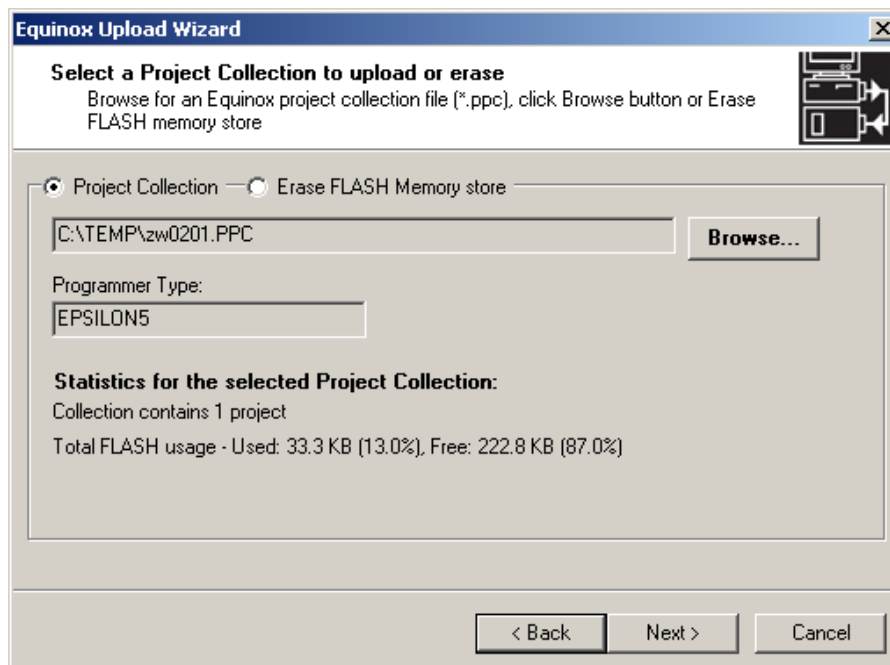

Figure 21 Programmer Upload Wizard – Select Project Collection File
- Select the COM port that is used for the serial connection between the PC and the Epsilon5 (see section 3.1) and press *Next* and the window depicted in Figure 21 will open.